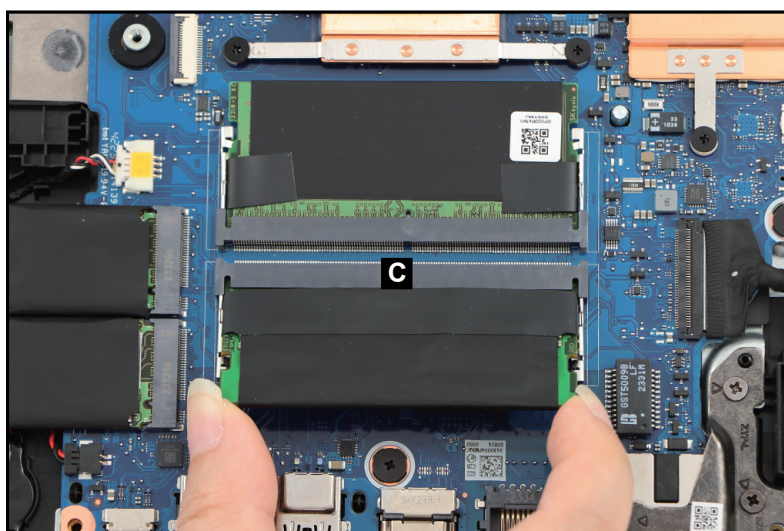

Figure 1-19. DIMM Module Removal
3. Disconnect the DIMM module from the mainboard connector (C) (Figure 1-19). Then remove the DIMM module.